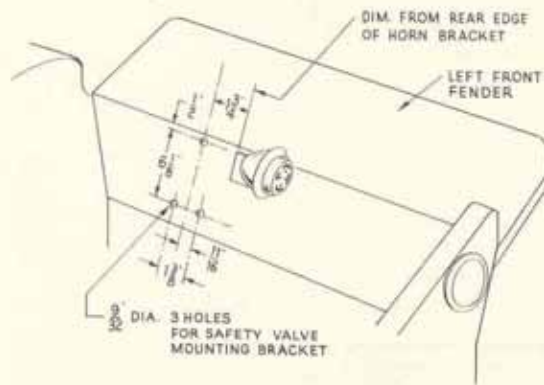

Figure 6
3. Using the dimensions shown in Figure 6, drill three $9/32$ -inch holes for the safety valve mounting bracket.